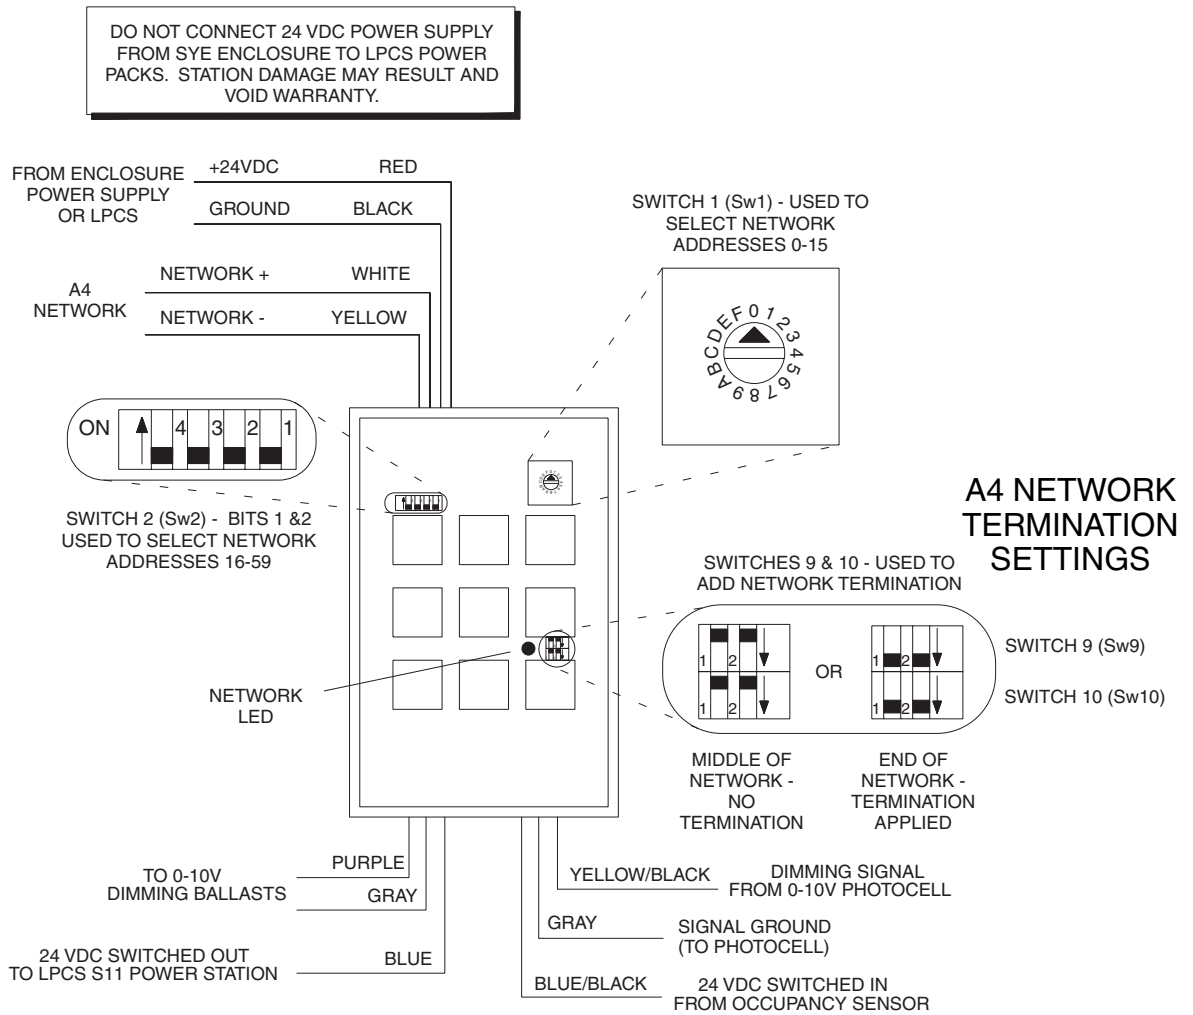

Figure 5 - SYRS EXT Details
Select and set a unique network address for each station. For addresses 0 through 15 use SWITCH 1. For addresses 16 through 59 use SWITCHES 1 and 2. The address equals the value of SWITCH 1 added to the value of SWITCH 2. See *Figures 5 and 8* for specific address settings.
The A4 network must be properly terminated for proper operation. The device residing at each end of the network **MUST** be terminated. The SYSC system controller is normally located at one end of the network and ships from the factory with termination activated. If an SYRS station is at the end of the A4 network it must be terminated. (See *Figure 5* for dip switch settings) If SYRS stations are located at both ends of the network, BOTH SYRS stations must be terminated and the factory applied A4 network termination on the SYSC system controller **must** be removed. (See the SYSC system controller jumper settings in *Figure 3* to unterminate the controller)
1. Verify the SYRS EXT is NOT in PID Mode. Set SWITCH 2 - position 3, in the DOWN (OFF) position. (See *Figure 5* for details)
See *Figures 5 and 9* for details.
2. Verify the A4 network address for each station by checking Switches 1 and 2. See *Figures 5 and 8* for switch settings of a specific address.